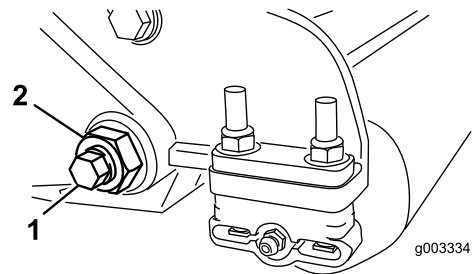
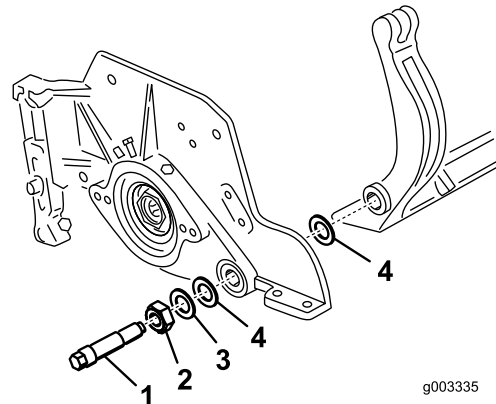

Figure 31
Figure 32
3. On each side of the machine, loosen the locknut securing the bedbar bolt (Figure 31).
4. Remove each bedbar bolt, allowing the bedbar to be pulled downward and removed from machine bolt (Figure 31). Account for 2 nylon washers and 1 stamped steel washer on each end of the bedbar (Figure 32).
4. Place a steel washer outside each of the nylon washers (Figure 32).
Torque the bedbar bolts to 27 to 36 N-m (240 to 320 in-lb). Tighten the locknuts until the outside steel washer stops rotating and end play is removed, but do not overtighten or deflect the side plates. The washers on the inside may have a gap (Figure 32).